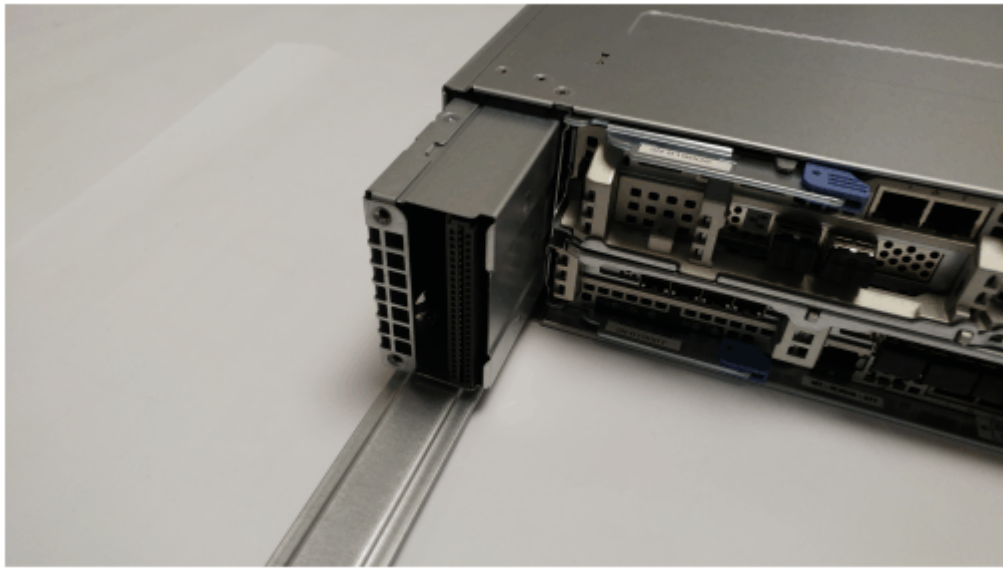

Figure 94. Removing a power interposer
3. Slide the power interposer out until it is clear of the enclosure rear, as shown in Figure 94 on page 142.